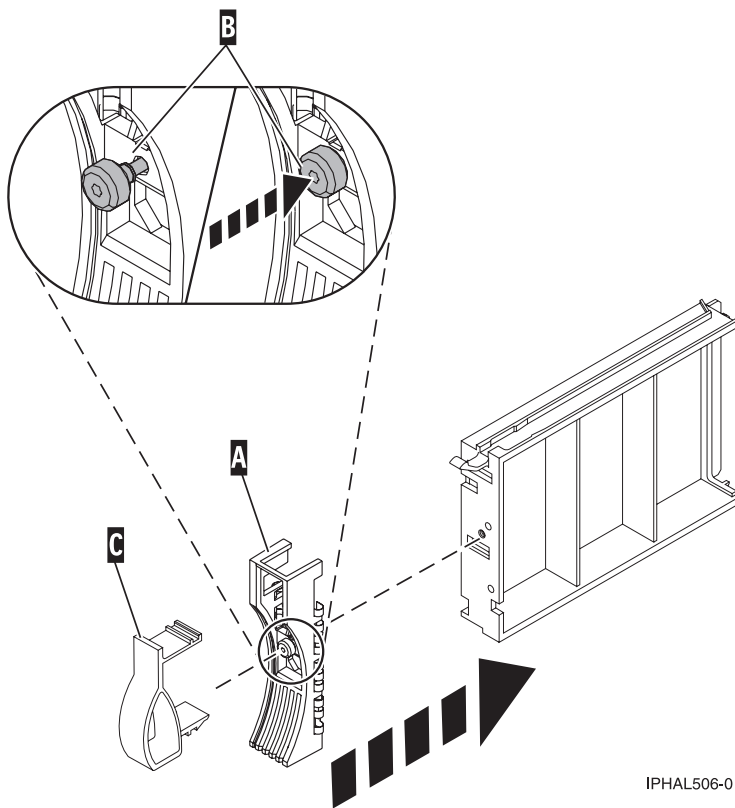

Figure 33. Attaching a bezel to a disk drive filler
2. Press in and then tighten the thumbscrew (B) to secure the bezel to the disk drive or filler.
3. Install the disk drive bezel latch (C) onto the front of the disk drive or filler, as shown in Figure 33.